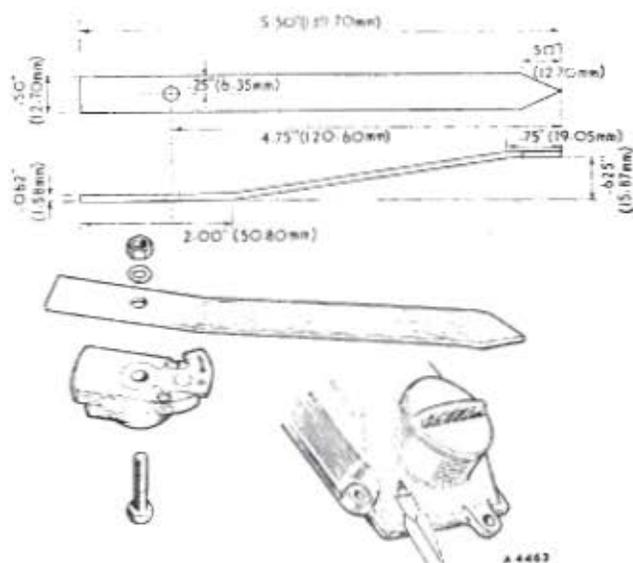

Fig. B.6
- (1) Fabricate a pointer as shown in Fig. B.6 and secure it to a disused rotor arm with a nut and bolt.
- (2) Remove the header tank hose to give access to the distributor.
- (3) Lock the automatic advance mechanism by removing the cam retaining screw and refitting it with a washer underneath its head. The washer may be made from a piece of wire .030 in. (.76 mm.) diameter and 1½ in. (28.57 mm.) long formed into a circle.
- (4) Fit the rotor and pointer to the distributor and ensure that the rotor is tight on the spindle.
- (5) Rotate the crankshaft until the pointer is over the flange of the camshaft cover (Fig. B.6).
- (6) Turn the pointer by hand in an anti-clockwise direction and mark the limit of its travel on the camshaft cover flange; then turn the pointer clockwise, and again mark the limit of its travel.
- (8) If the distance between the two limits exceeds $\frac{5}{16}$ in. (8 mm.) the distributor drive gears must be renewed before a new distributor is fitted.